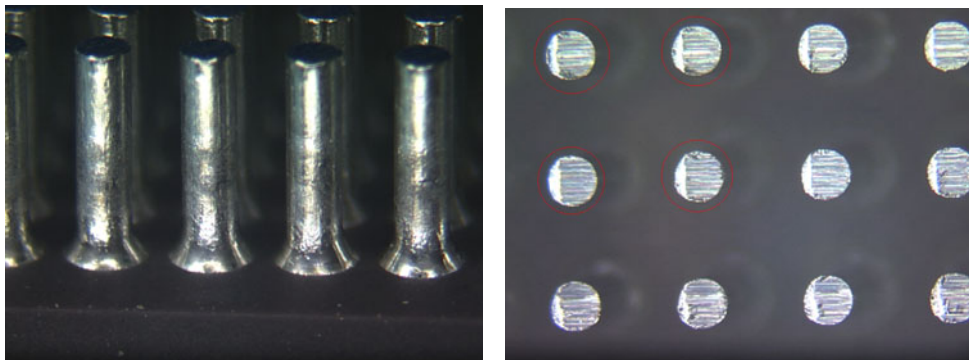
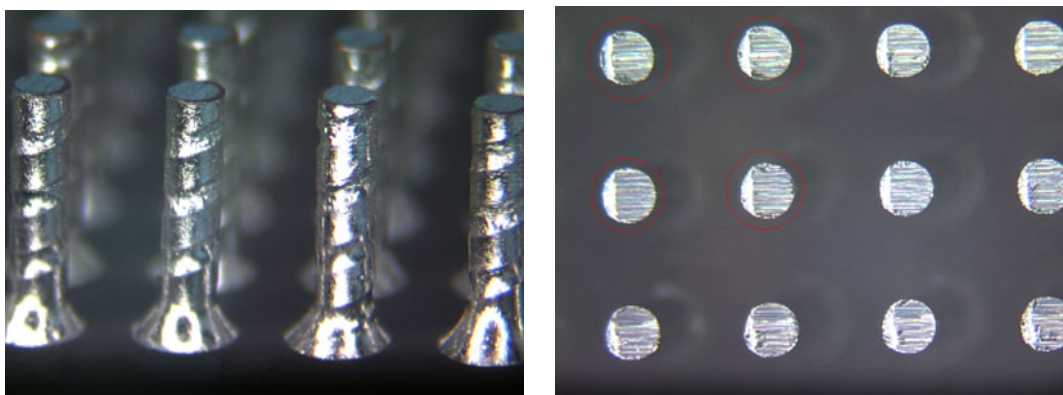
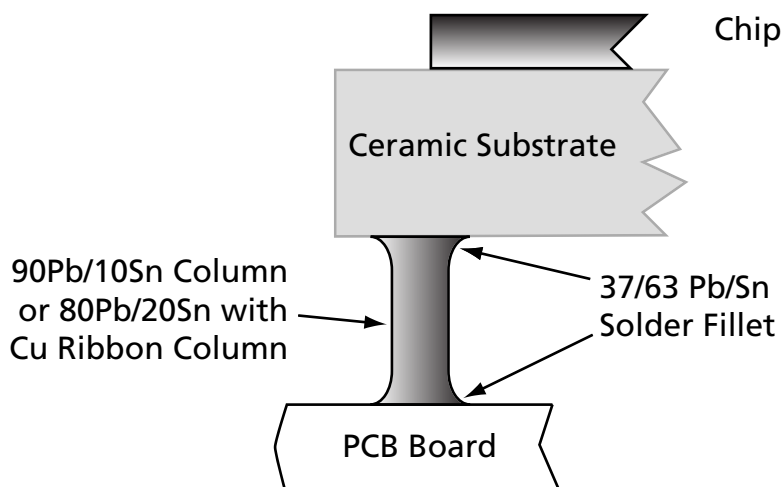

Figure 4 • 90Pb/10Sn Column Side View and Tip View, with 20 mils Diameter
Figure 5 • Change to 80Pb/20Sn Column Side View and Tip View, with 20 mils Diameter
Figure 6 • CCGA on PCB
2. The solder column is either 90Pb/10Sn or 80Pb/20Sn, with a copper ribbon (refer to Figure 4 and Figure 5 on page 3) attached to the ceramic substrate I/O pads via eutectic 37/63 Pb/Sn, forming a eutectic solder joint. Please see Figure 6 on page 3 for more details.